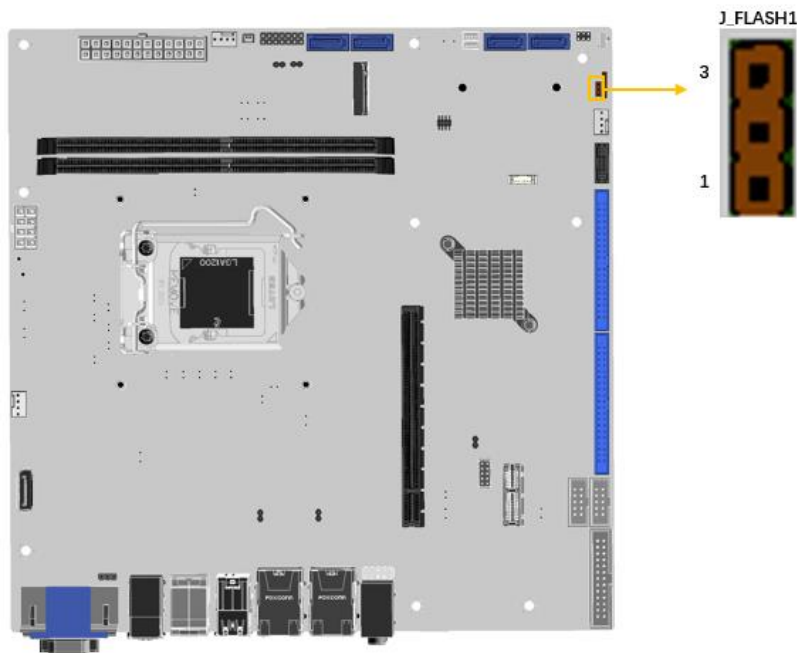

Figure 3-5: Flash Descriptor Override Setting Jumper Location
- CN Location:** See Figure 3-5